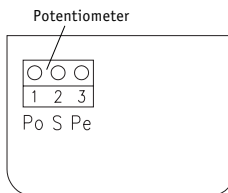

Fig. 4: Pin connection GP03/04
**With PG9 (fig. 4) :**
- Push nut-gasket (1), washer (2) (inner- $\varnothing$  > washer's inner- $\varnothing$  (4)) and washer (4) onto the cable.
- Put the wire screening (3) over the washer's (2) outer surface.
- Push strands through the screw hole (5). Insert parts (4), (3) and (2) into the screw hole (5).
- Fix nut (1) and then fix the complete PG-screw to the casing.